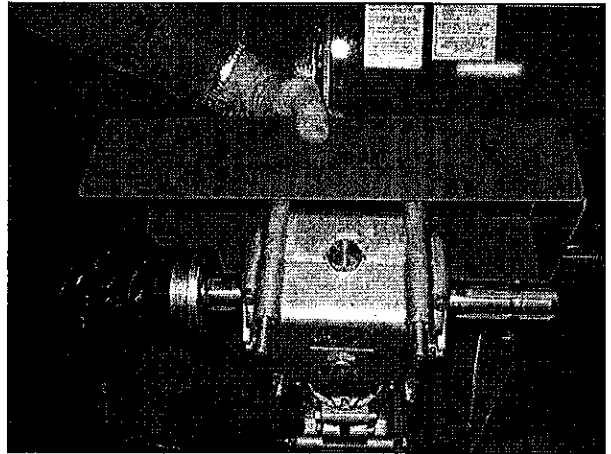

Figure 21
2. Remove the two shields that cover the top gearbox (Figure 21).